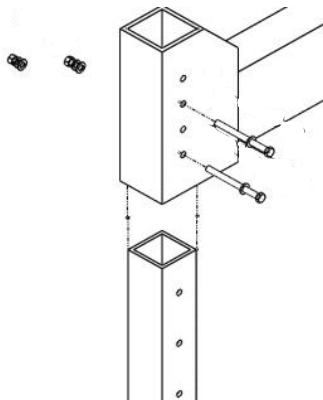

Figure 1
Note: Ensure Crossbeam and Leg Pocket is oriented in the upward position as shown in Figure 1.
1. Slide Crossbeam Leg Pocket over Square Tube Leg as shown in Figure 1 and adjust to desired height.
2. Attach one (1) 3/8" Flat Washer onto two (2) 3/8" x 4-1/2" Hex Bolts and insert them into Leg Pocket, securing the Crossbeam to the Square Tube Leg shown in Figure 1.